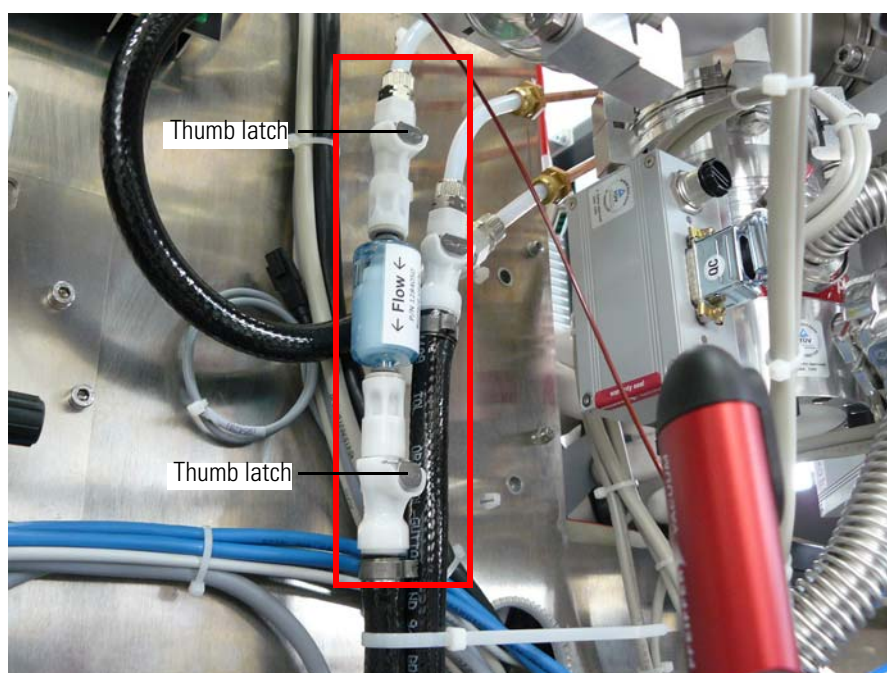

Figure 3-50. Installed water filter
3. The filter is installed on the left instrument side, in the cooling lines of the Orbitrap system between the Peltier element and the flow sensor. See Figure 3-50. Quick couplings connect the filter assembly to the hoses of the cooling lines. Press the thumb latch of each quick coupling to release it; valves in the couplings prevent the water from leaking out. Then remove the complete filter assembly.